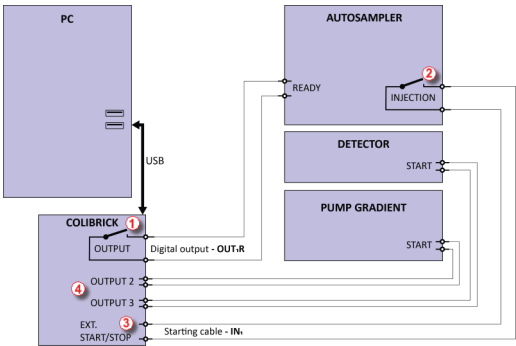
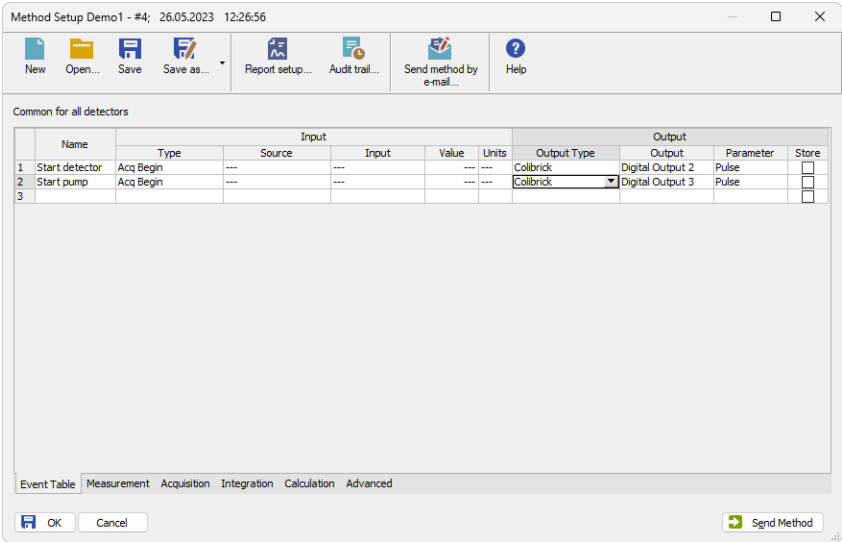

Fig. 25: Wiring of the autosampler in an LC set without the AS Control module
Fig. 27: Event Table for starting detector and pump from Clarity
The autosampler will initiate the injection after its input contact has been closed ① . After the injection, the autosampler will close the INJECTION contact ② , and the command to start acquisition will be given directly back ③ . When using additional devices (Detectors, LC Pumps, etc.) it is recommended to connect these devices independently to other digital outputs of the A/D converter ④ . Each device will then need a dedicated row in the **Event Table** (Fig. 27 on pg. 40.) to be started or stopped by **Clarity**.
Events to start additional detectors and pumps from **Clarity** must be set in the *Event Table* accessible from the *Method Setup* dialog. In the most typical setup (shown in **Fig. 25** on pg. **39**.) use the setting as displayed in **Fig. 27** on pg. **40**.